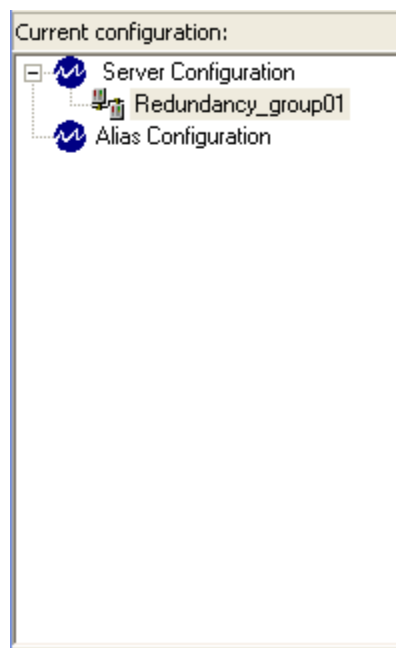

Figure 17 - New Redundancy Group Object
8. Click on the **OK** button. The object is created and appears as a child of the **Server Configuration** item as shown in Figure 17.